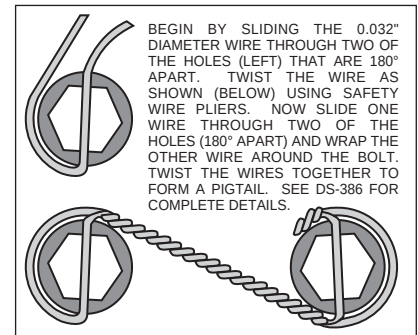

Figure 3. Safety Wire Diagram
- Apply red *Loctite*® 271 to bolt threads (2) before assembly of the caliper bracket (1) to backing plate face of spindle. Position the caliper mounting bracket (1) onto the spindle while positioning spacers (3) between bracket and spindle face. Slip the mounting bolts (2) into the threaded spindle holes, finger tighten. Torque two bolts (2) to 30 ft-lb. **NOTE:** Be sure the heads of the caliper bracket (1) insert nuts are facing outward toward the wheel.
- Install five new wheel studs (4) into the hub (5). Torque to 77 ft-lb. **NOTE:** There are two five lug patterns in the hub (5 x 4.50 and 5 x 4.75). Make sure of the correct hole pattern for the correct wheel application before installing studs into hub.
- Pack the large inner bearing cone (6) with high temperature disc brake bearing grease (available from your local auto parts store) and install into the backside of the hub (5).
- Install the grease seal (7) by pressing into the backside of the hub (5).
- Attach rotor adapter (8) to rotor (9) using six bolts (10). **NOTE:** The flat side of the rotor (8) lugs face toward the rotor adapter (9) with the dished side of the rotor adapter (8) facing away from the rotor (9). Using an alternating sequence, apply red *Loctite*® 271 to the threads and torque bolts to 25 ft-lb. For an added measure of security, the bolts may be safety wired using standard 0.032 inch diameter stainless steel safety wire as shown in Figure 3. Please refer to Wilwood's data sheet DS-386 (available at www.wilwood.com/Pdf/DataSheets/ds386.pdf) for complete safety wire installation instructions.